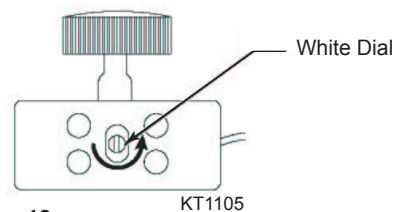

Figure 12
3. If blower does not turn on, turn the fireplace off and allow to cool. Using a small jeweler's style screwdriver, turn the white dial on the side of the speed control 1/8 turn counterclockwise. Figure 12. This will allow the blower to start at a lower speed setting as the fireplace cycles on and off. Retest blower.